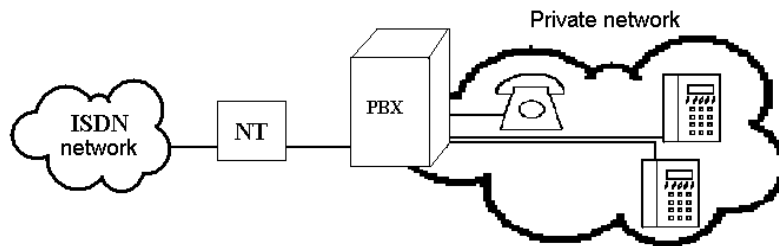

Fig. 14 - Point-to-Point Connection
The Point-to-Point (EuroISDN with DDI) configuration interconnects directly one ISDN terminal (TE) with a network terminal (NT) (see Fig. 14). This type is applied mainly where PBXs are connected to the ISDN.